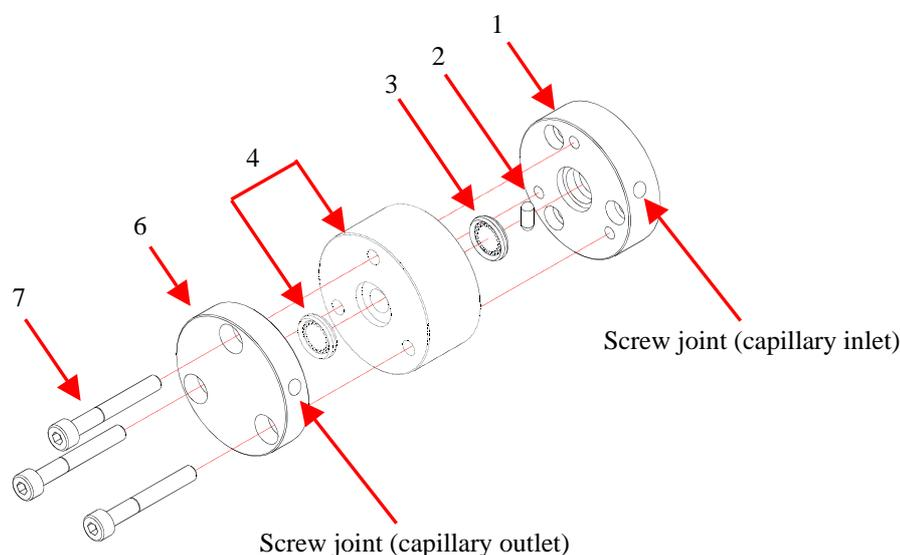

Fig. 64: Mixing chamber with optional mixing chamber extension
- Install the mixing chamber top part to the mixing chamber base part, as illustrated in Fig. 64. When inserting the seal, you do not need to observe a special mouting direction. Make sure that the position of the capillary outlet screw joint in the mixing chamber outlet is correct.